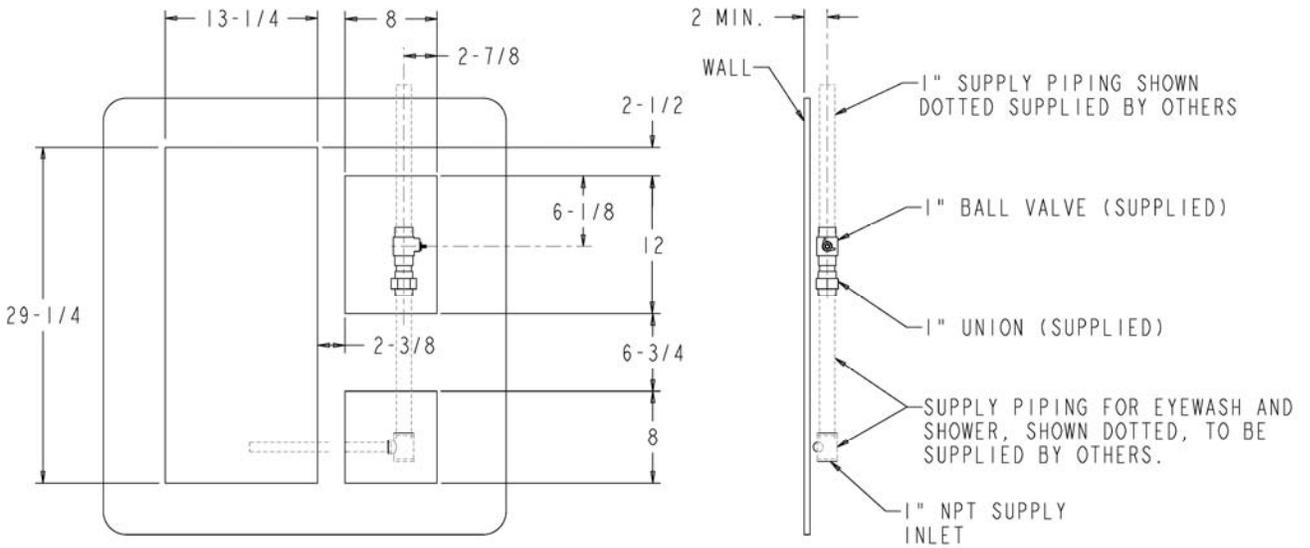
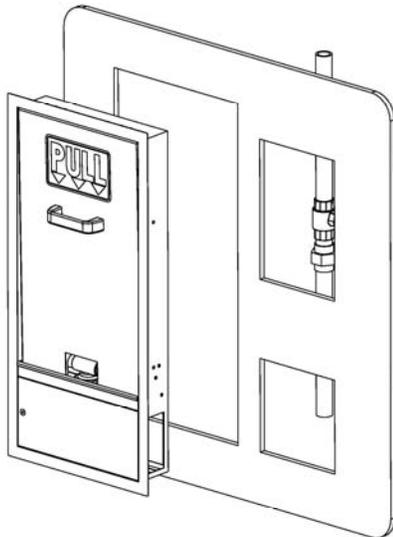
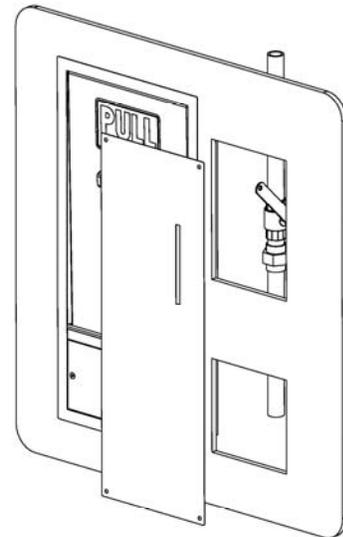

FIG. 1
FIG. 2A
FIG. 2B
1. Once desired location & spray head height is determined cut openings in the wall for the eye/face wash & emergency shower per the minimum dimensions shown in Fig. 1, making sure there are suitable structures (stud, etc.) on each side of the eye/face wash opening for securing the eye/face wash cabinet to the wall.
2. Making sure unit is level, use appropriate fasteners (4) to secure unit to wall as shown in Fig. 2A & Fig. 2B.
3. Plumb the eye/face wash & emergency shower ball valve (supplied) as shown in Fig. 2A & Fig. 2B, and the required water supply piping (supplied by others). For smooth activation, make sure that when final union connection is made that the stainless steel activation lever handle is as close to perpendicular to the finished wall as possible. Use pipe dope or thread sealant on all pipe thread connections (not union connections). The eye/face wash is supplied with a 1/2" NPT inlet, and requires a minimum 30 PSI flowing water pressure, and the emergency shower is supplied with a 1" NPT inlet. Shown in fig. 1 as dotted lines is the recommended piping configuration for a single water supply inlet. **NOTE: water supply to the unit to be an uninterrupted source of potable water. Failure to use potable water can result in emergency units producing impure or contaminated water causing possible further injury**